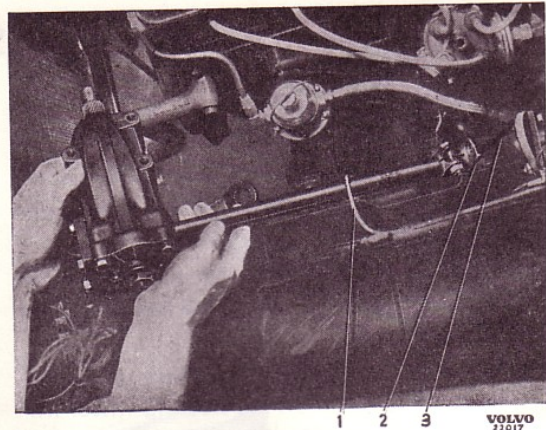

Fig. 31. Removing the steering box.
5. Lift and turn the steering box as shown in Fig. 31. Pull out the horn lead (3) from the lower section of the steering column and steering box. Lift off the steering box but be careful when moving the clamp (2) past the brake line (1).